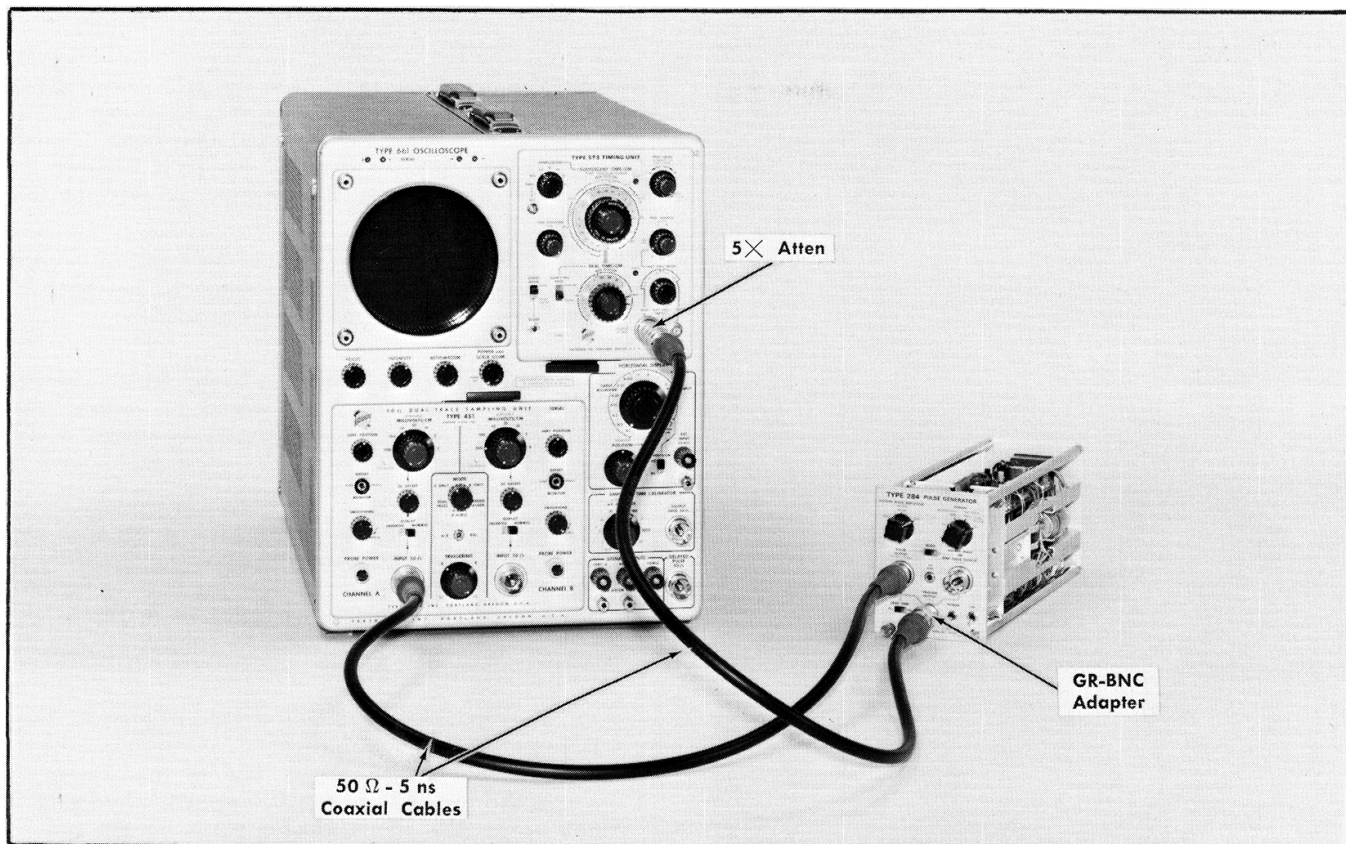

Fig. 6-25. Equipment setup for steps 15 through 24.
15. Adjust TD BIAS (front panel) ①
a. Use equipment setup in Fig. 6-25. Connect the PULSE OUTPUT signal from the Type 284 through a 5 ns coaxial cable to the Channel A Input 50 Ω connector on the Type 4S1. Connect the TRIGGER OUTPUT signal from the Type 284 through a BNC to GR adapter, a 50 Ω coaxial cable, and a 5X attenuator to the Ext Input 50 Ω connector of the Type 5T3.
- Use the equipment shown in Fig. 6-25, but connect as follows: Use two identical 50 Ω coaxial cables, one to connect the TRIGGER OUTPUT signal through a BNC to GR adapter to Channel A Input 50 Ω connector; and one to connect the PULSE OUTPUT signal to Channel B Input 50 Ω connector.